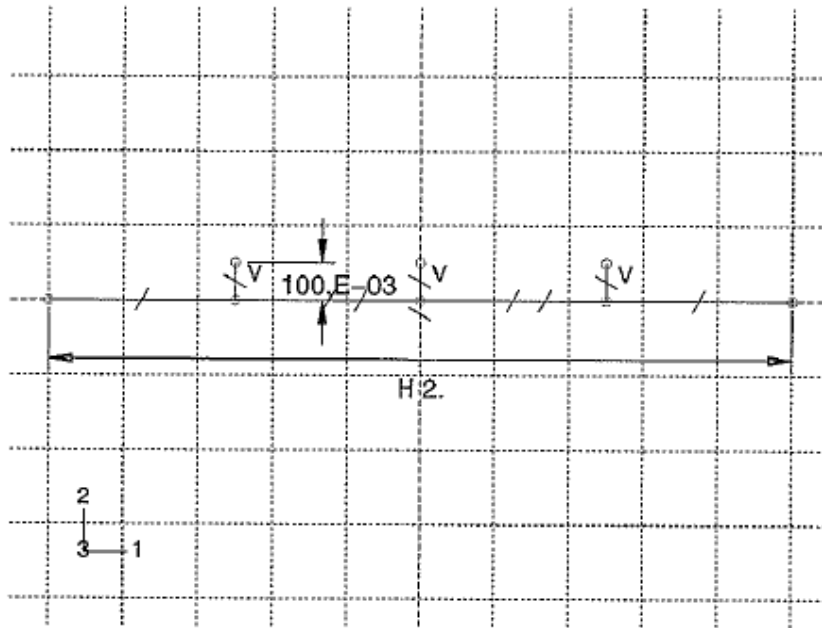

Figure 1.2 Sketch of the stiffened plate (1 out of 2 grid lines visible)
- Apply equal length constraints to the horizontal segments of the line. The final part sketch is shown in figure 1.2